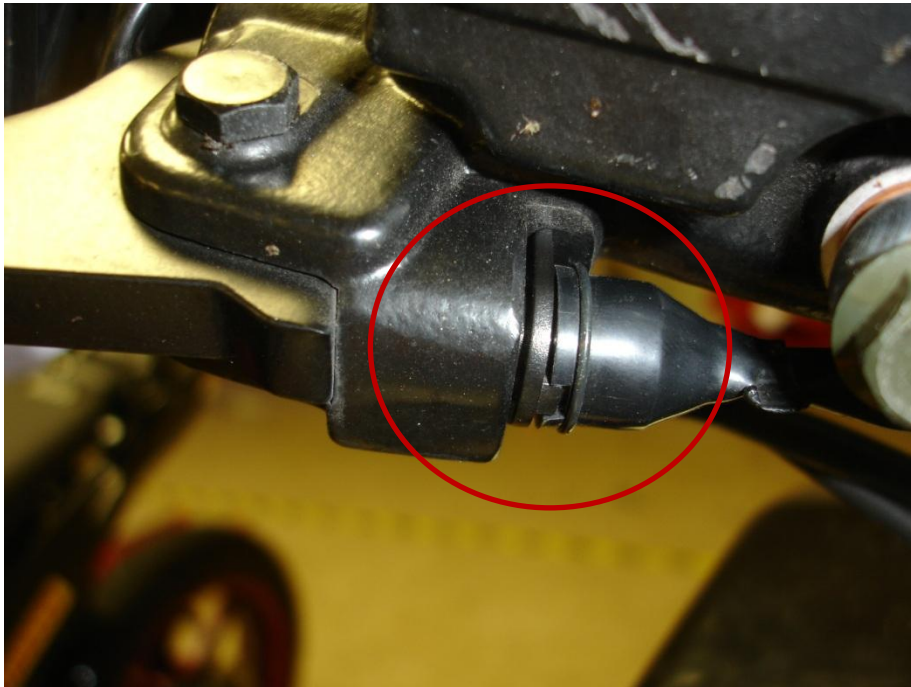

Figure 11
- c. The brake switch and connector should make an audible 'click' when seated properly as the tangs engage. See FIGURE 11, 2 and 3.